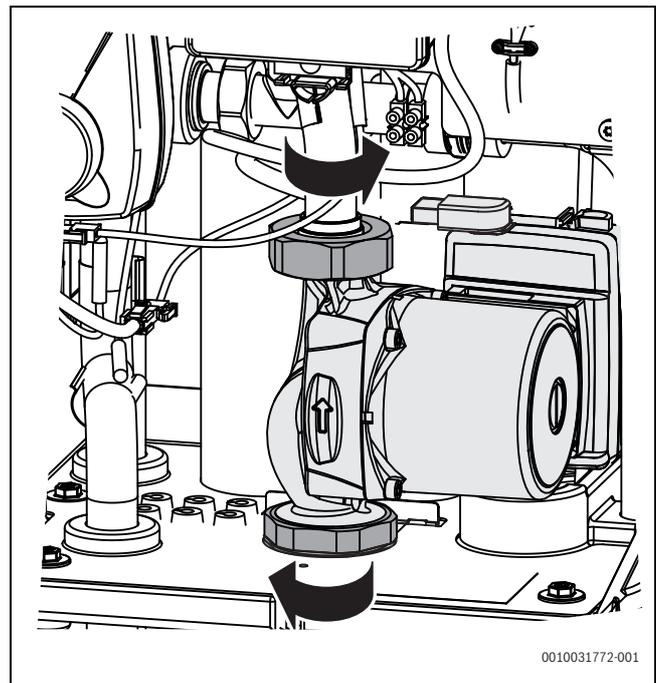

Fig. 43 Undo union nuts
- ▶ Undo union nuts at the pump then remove the pump and gaskets (→ Fig. 43). As you do so, counterhold at the coupling points using a suitable tool.